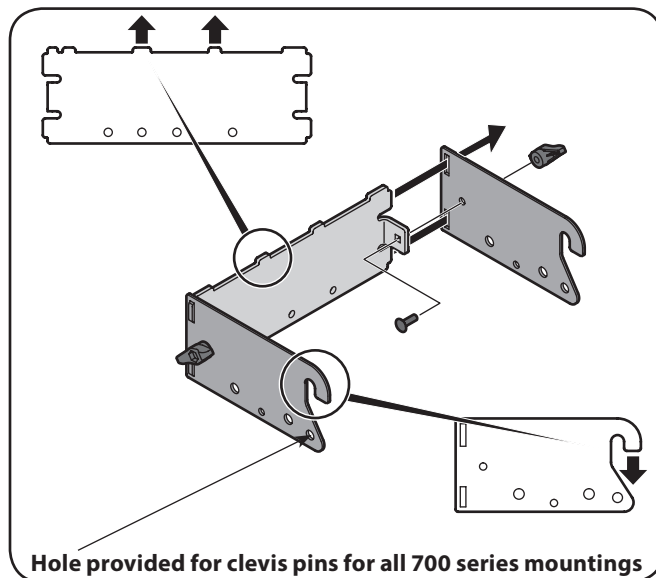
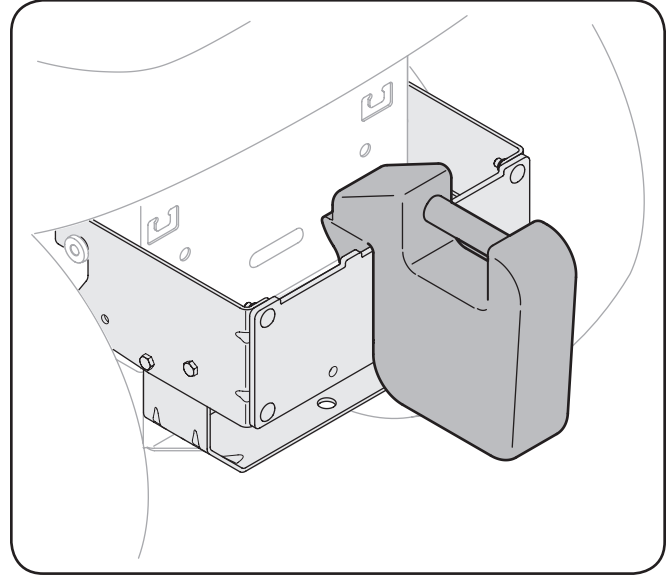

Figure 3-3
**Figure 3-7**
**Note:** The hooks on the side brackets should point downwards and the tabs on the rear plate point upwards as shown in Figure 3-3.
**Note:** Install two clevis pins through the mounting assembly and secure to the 700 series mounting brackets using two click pins provided with the model 700 mounting kit. Refer back to Figure 3-3 for clevis pin hole location and see Figure 3-7 below.